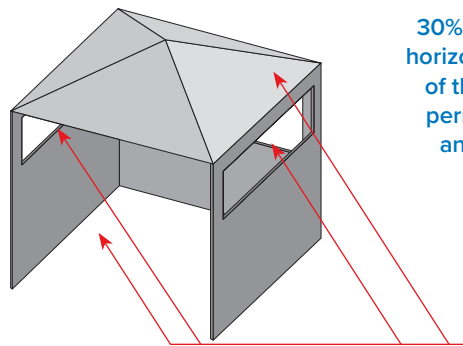
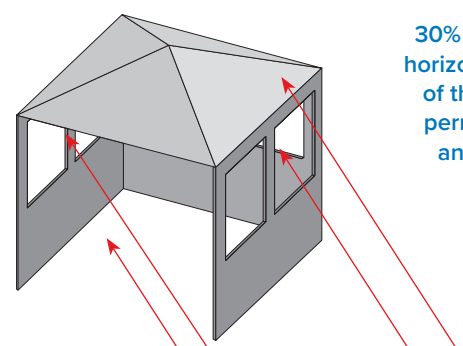

Fig. 4
Fig. 5
- An appliance is considered outdoors if installed in a shelter with three sidewalls and an overhead cover, as long as 30% or more of the horizontal periphery of the enclosure is permanently open. **(Fig 4 & Fig 5).**